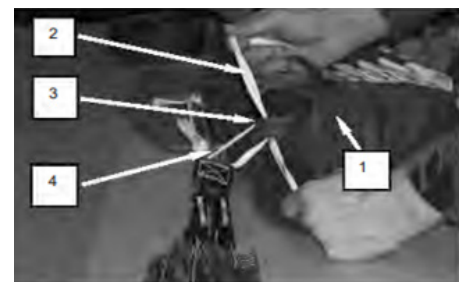

Figure 45
1. Roll back the sides of the deployment bag (Figure 45, item 1) until the static line cotton buffer is exposed.
2. Secure the canopy loop to the static line cotton buffer using a 36-inch length of Type 1, 1/4-inch cotton webbing, doubled (Figure 45, item 2). Pass one end of the double webbing through the cotton buffer loop (Figure 45, item 3), through the vent loop of the canopy (Figure 45, item 4), and back through the cotton buffer loop.